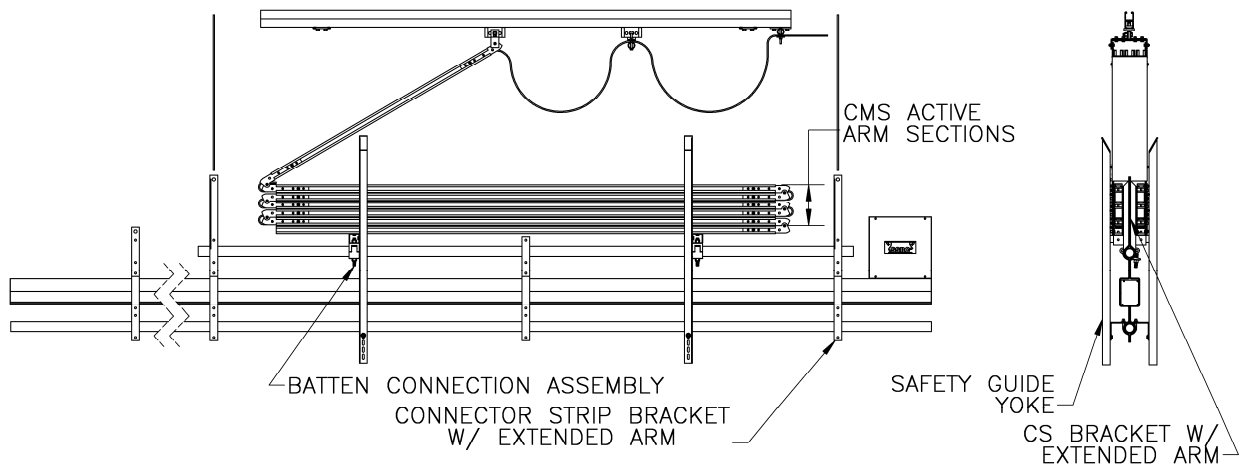

Figure 13. Truncated Double Pipe Batten with Safety Guide Yokes
If the CMS has five (5) or more active full length arm sections, then Safety Guide Yokes are required. See Figure 13. The Safety Guide Yokes maintain the alignment of the CMS arm sections as they stack up when the set is being raised. They also prevent further damage if the set is lowered onto an obstruction and the batten assembly rotates out of plumb.